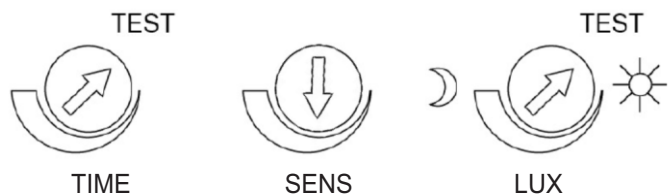

Figure 6
(1) TEST MODE
- Turn the Light control and the time control anti-clockwise to the edge – the TEST position. Set the SENS control to its midpoint (Figure 6).